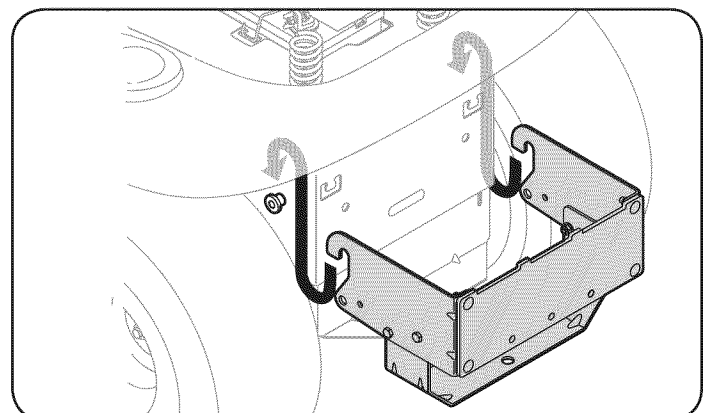

Figure 8
1. Place the hooked ends of the bagger mounting assembly over the shoulder bolts, as in Fig. 8, on the tractor and line up the hitch support hole on the mounting assembly with the hole on the tractor's hitch.